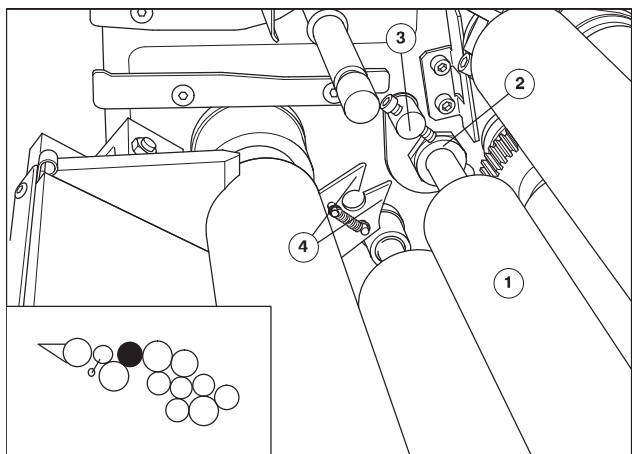

Fig. 37 Inserting the 1st ink transfer roller
The ends of the 1st ink transfer roller (Fig. 37/1) are beveled.
1. Insert the roller on D.S. and O.S. in the journal boxes (Fig. 37/2).
2. Fold up lever on D.S. (Fig. 37/3) and O.S. up to stop.
1. Place the roller with the brass bearings in the retainers on D.S. (Fig. 37/4) and O.S.